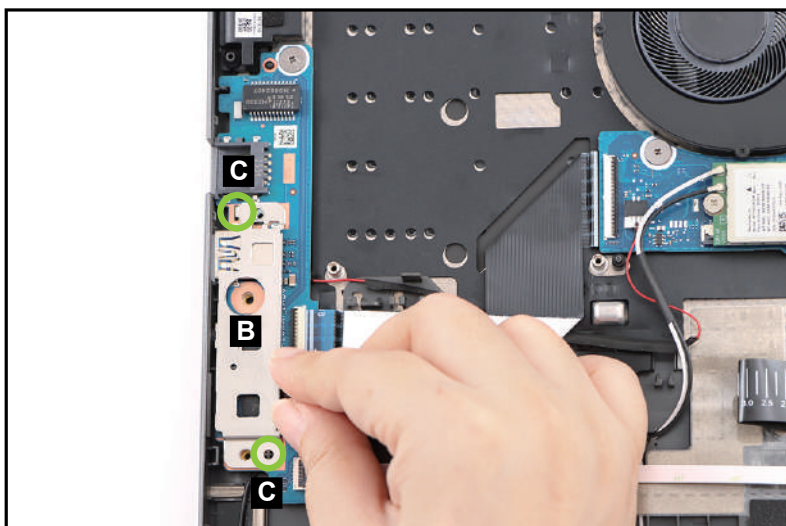

Figure 3-13. Smart Card Holder Removal
2. Lift the left IO bracket (B) to release it from the guide pins (C) (Figure 3-13). Then remove the IO bracket.